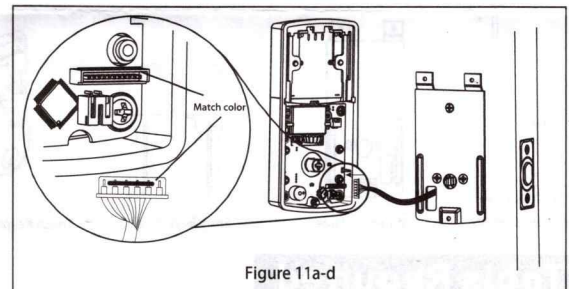

Figure 11a-d
- Use care to attach the Control Wire male plug to the Interior Assembly female socket connector (Figure 11a-d).
- Do not force the Control Wire male plug into the Interior Assembly female socket connector (Figure 11a-d).
- The Control Wire male plug has two alignment tabs on the smooth side of the plug which is the top of the plug (Figure 11a-d).
- The Control Wire male plug is inserted with the smooth side up into the Interior Assembly female socket connector (Figure 11a-d).